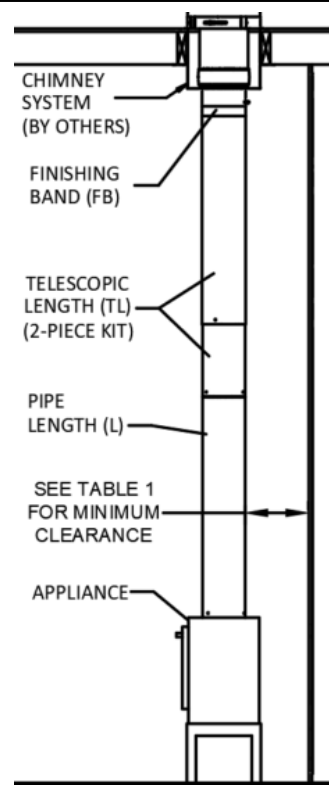

Fig 2B. Through the Ceiling
- Prefabricated Chimney – Through-the-Wall Installation (See Figure 2B)